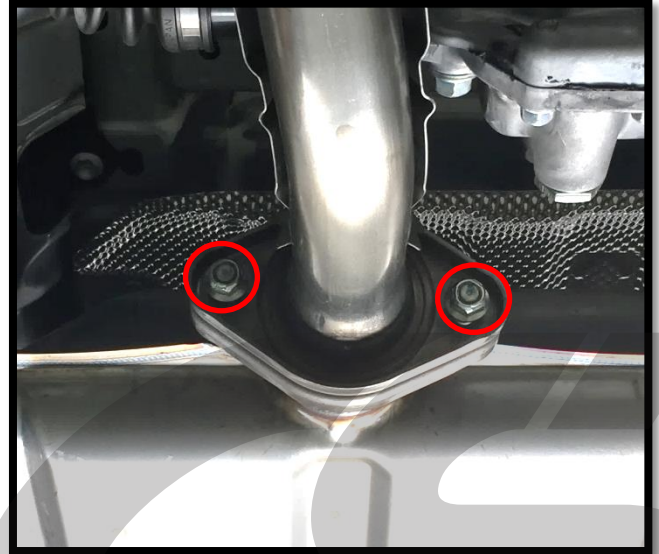

Figure 2a
- a) Using a 14mm socket and extension if desired, remove the two nuts holding the factory axle back to the mid pipe (bolts circled in **Figure 2a**).